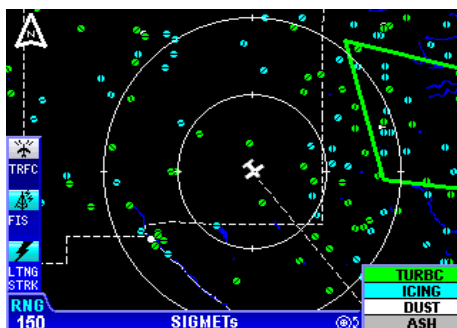

Figure 2-34
1. Press the **WX** Function Select Key until the FIS Graphics Page is displayed. If necessary, turn the Rotary Knob to obtain the Graphical SIGMETS display similar to Figure 2-34. **SIGMETs** will be displayed at the bottom of the display.